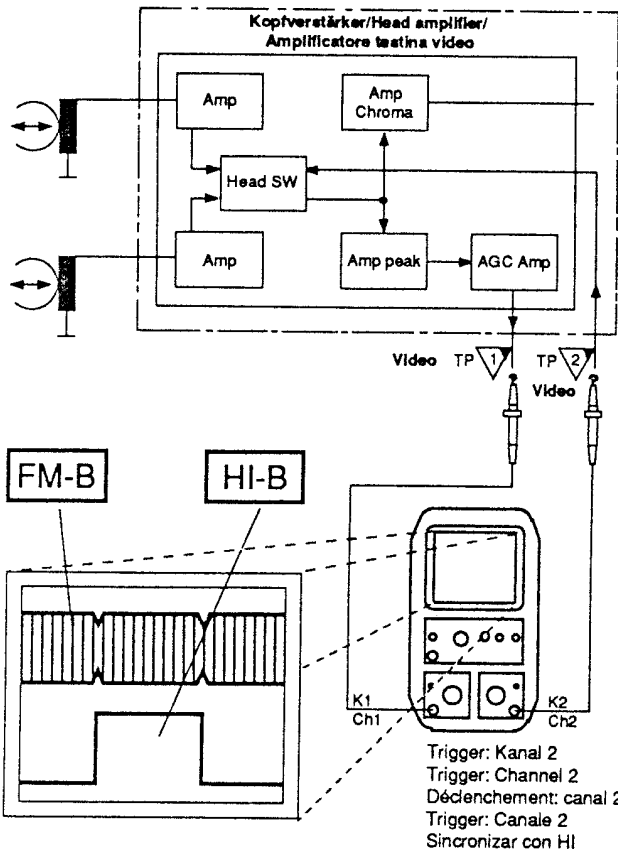

Fig. 36
- Connect the oscilloscope as shown in Fig. 36: Test Probe 1 to video TP 1
- Collegare l'oscilloscopio come indicato in fig. 36: sonda 1 al punto TP 1
- Connect the Oscilloscope as shown in Fig. 36.